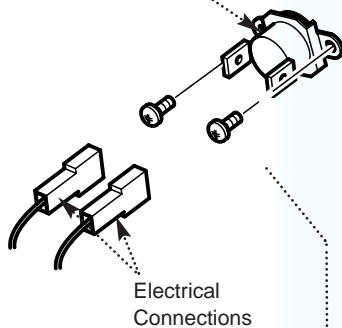

Fig. 59
13.4 Flow or Return Temperature Thermistors and Safety Thermostat (Figs. 59 & 59a)